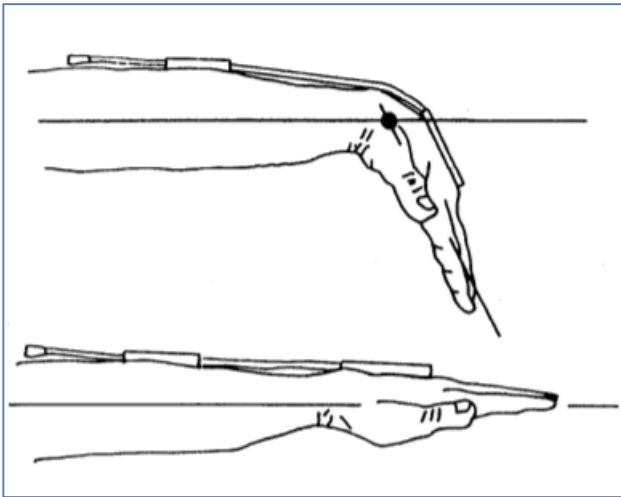

Figure 6: Goniometer's position
- While fully flexing the wrist, extend the goniometer and attach the proximal end block to the forearm so that the axes of the forearm and end block are coincident. (Figure 6)